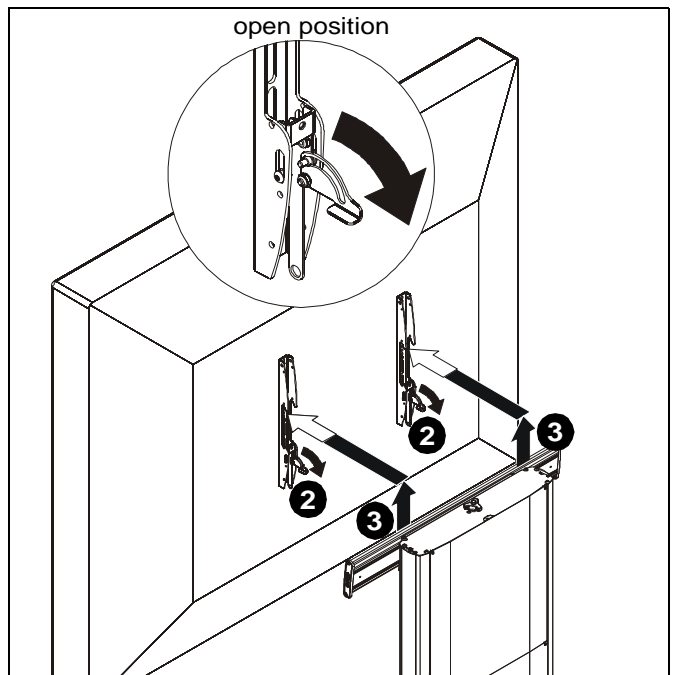

Figure 24
2. Position latches on interface uprights so that they are in the "open" position. (See Figure 24)
3. Carefully lift display from cart. (See Figure 24)